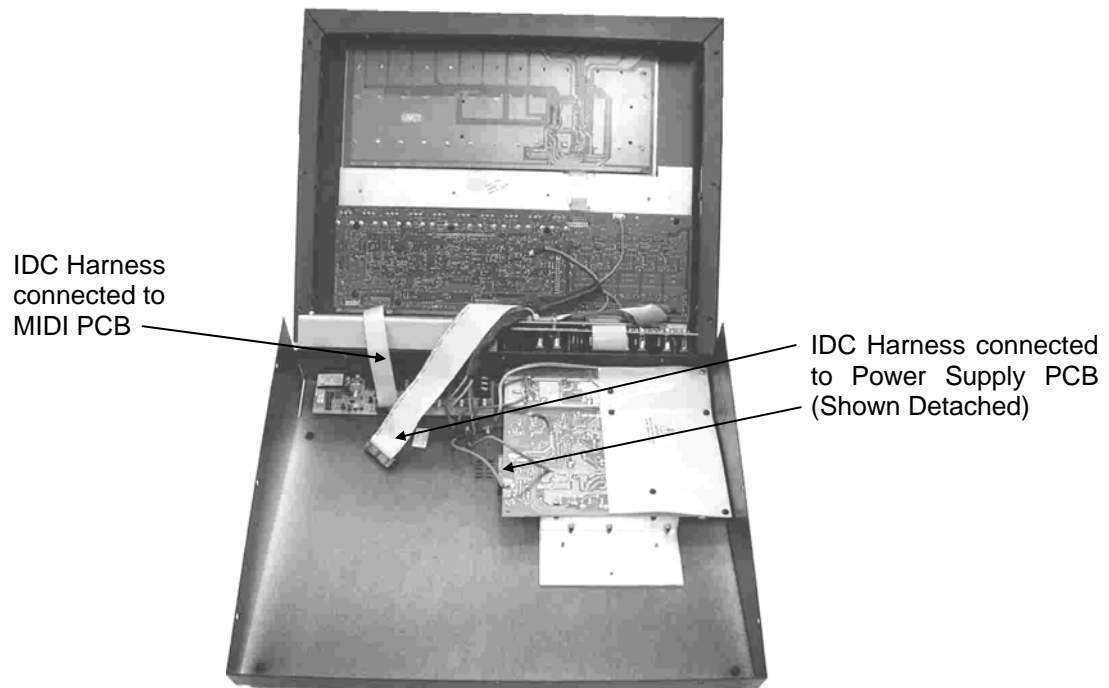

fig.1
- 3) Remove the 2 IDC Harnesses from the MIDI and Power Supply PCB respectively (see fig.1)